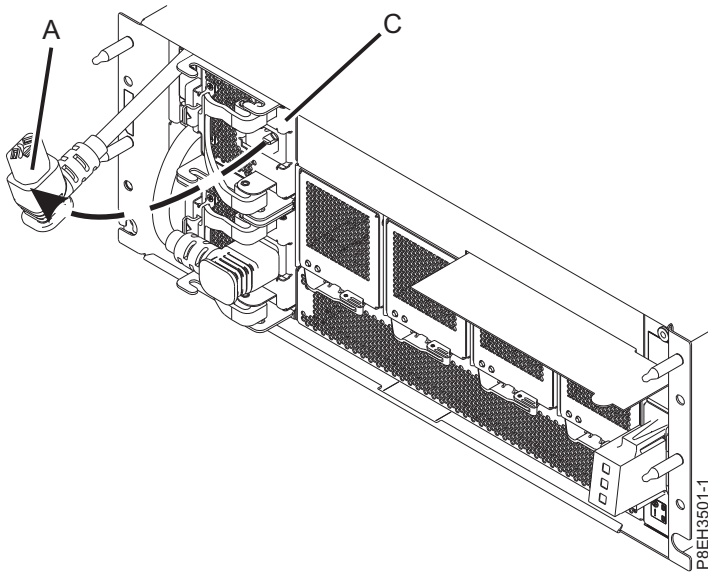

Figure 4. Disconnecting the power cord from a power supply in the EMX0 PCIe3 expansion drawer
3. Disconnect the power cord from the power supply by pulling the power cord (A) out of the power supply (C) in the direction shown in Figure 4 on page 4. Repeat this step for the remaining power supply. Both power cords must be disconnected before you continue with the next step.